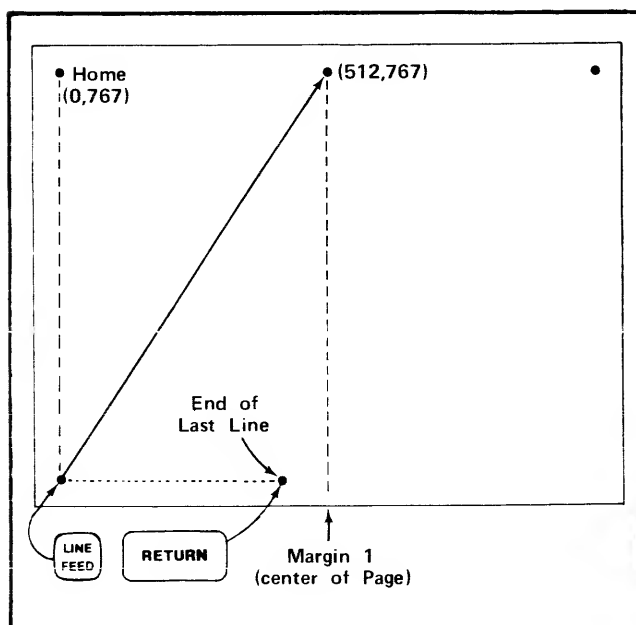

Fig. 2-5. Steps which set up Margin 1 (center of the Page).
Step 16. Center of the page margin called "Margin 1" can be used as a left hand margin. See Fig. 2-5. Margin 1 is automatically set at the end of the 35th line of text when followed by a LINE FEED and RETURN (carriage return). The advantage of using Margin 1 is that you can get two columns of copy: however; if any first column lines extend over one half page they will be covered by the second column.